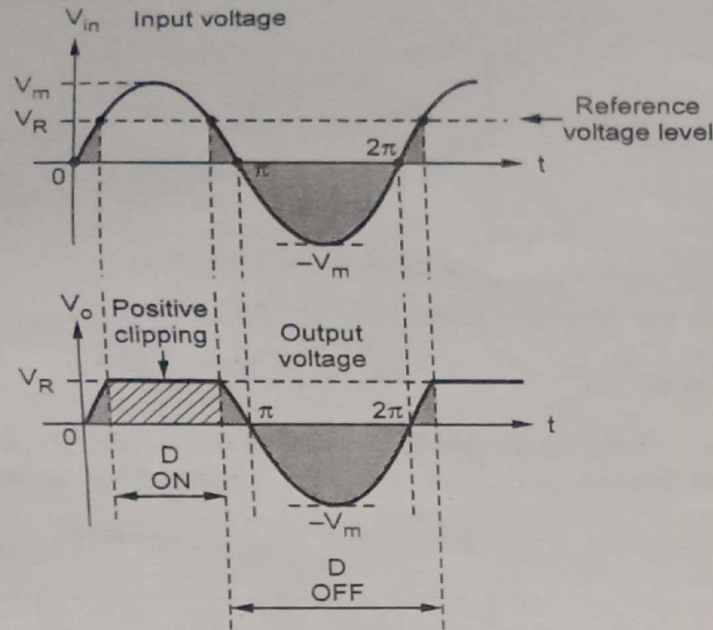

Fig. Q.45.4 Waveforms for positive biased shunt clipper
- The input and output waveforms are shown in the Fig. Q.45.4.